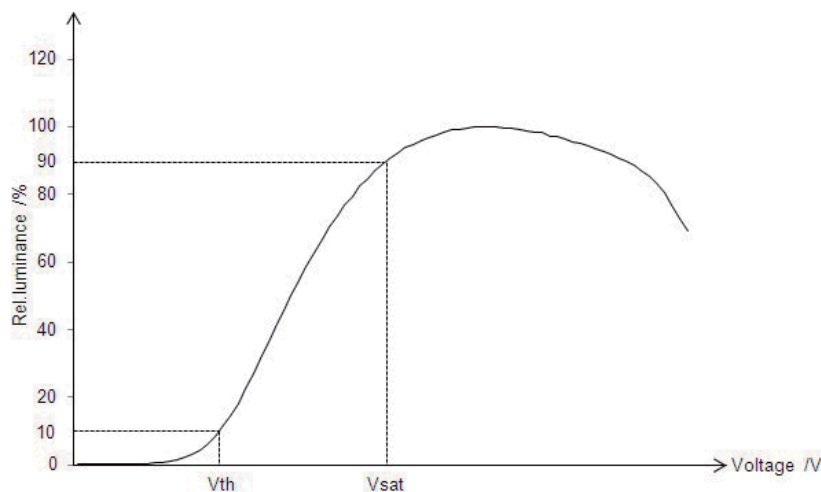

Figure 5. The definition of V_{th} & V_{sat}
- Viewing angle is the angle at which the contrast ratio is greater than 10. The viewing are determined for the horizontal or 3, 9 o'clock direction and the vertical or 6, 12 o'clock direction with respect to the optical axis which is normal to the LCD surface (see FIG.5).